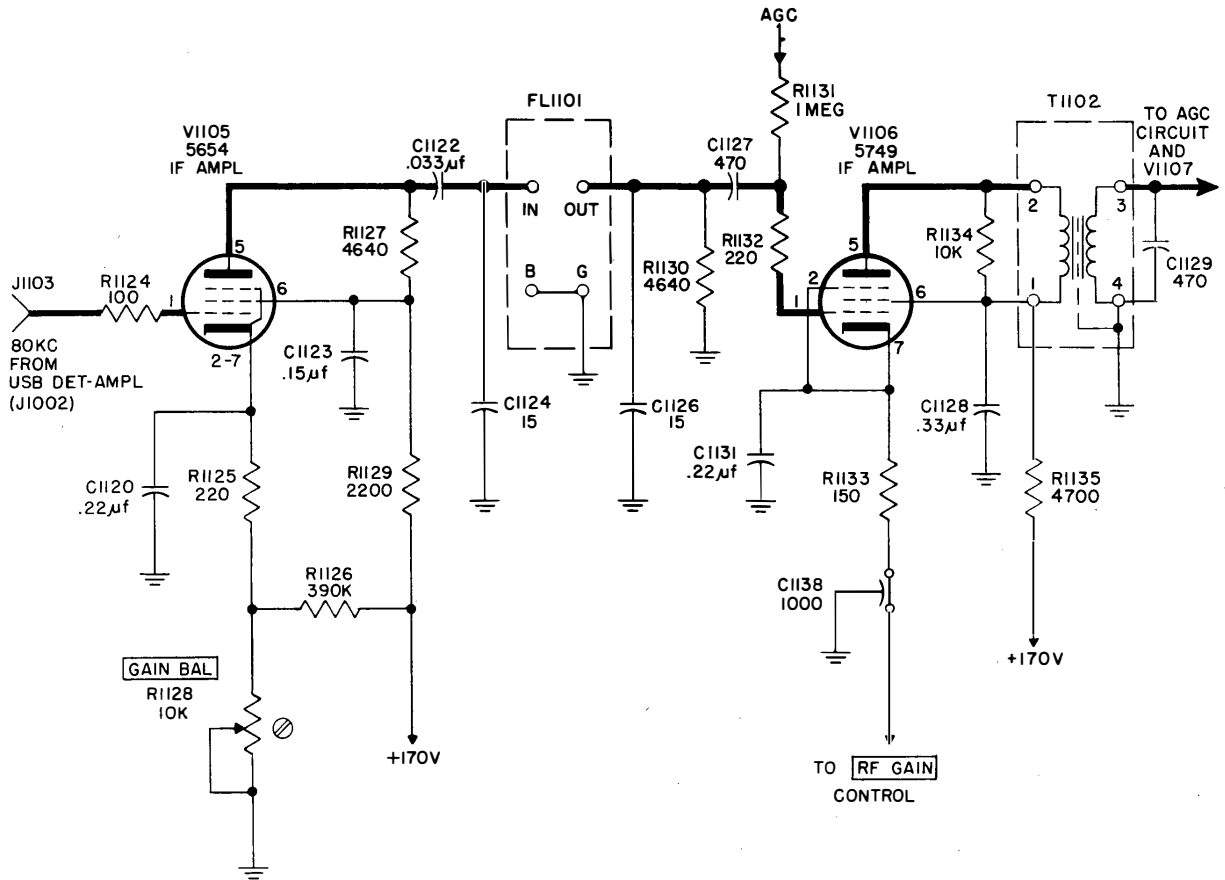

Figure 4-32. IF Amplifiers V1105 and V1106, Simplified Schematic Diagram
*b. IF AMPLIFIER V1105-1106.* (See figure 4-32.)—The control grid of V1105 receives its 80 kc input from the USB detector-amplifier through connector J1103. The amplified output is developed across plate load resistor R1127 and applied through coupling capacitor C1122 to bandpass filter FL1101, which has an operating bandwidth of 80.3 kc to 84 kc.